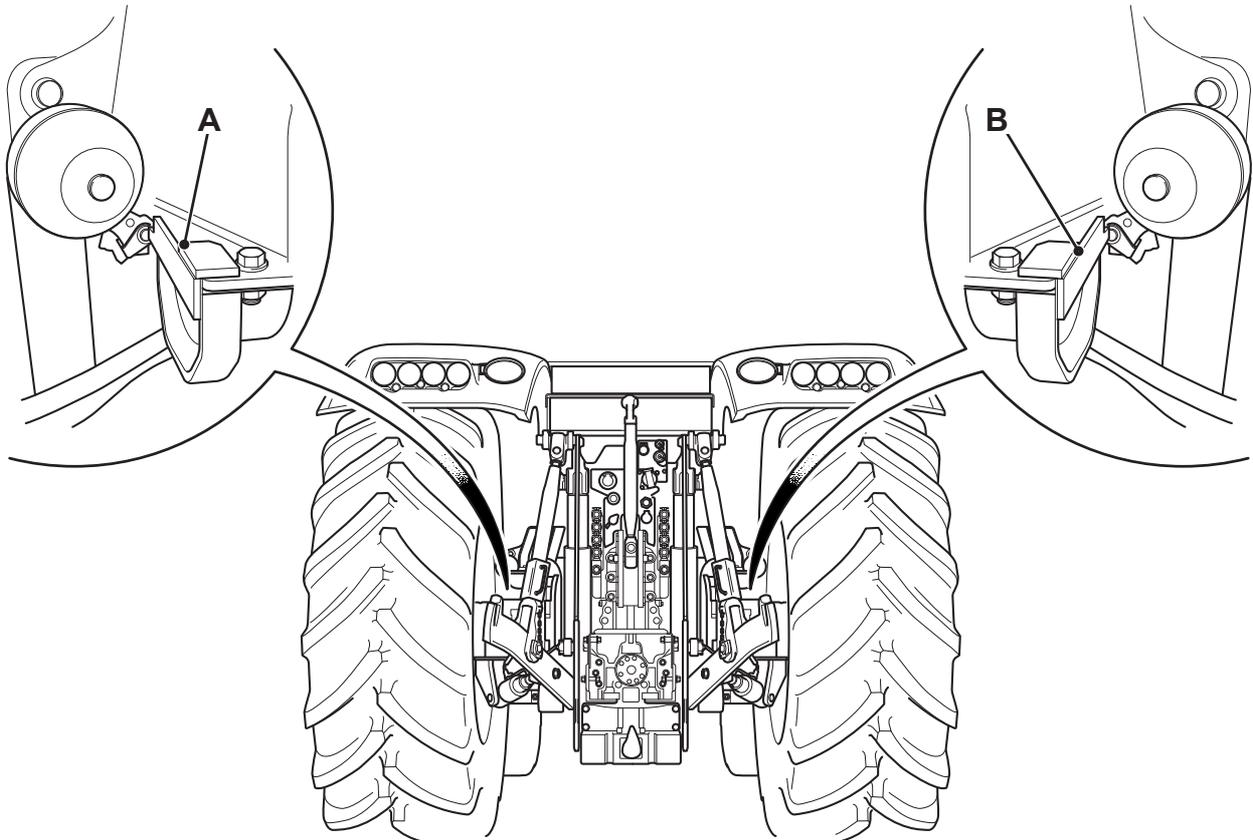

Fig 11.
- 4 Place the special calibration tools **A** and **B** between the rear axle and the chassis as shown. → Fig 11. (□ S-11) These tools will need to be made as detailed on the drawings in **Special Tools (Section 1)**.